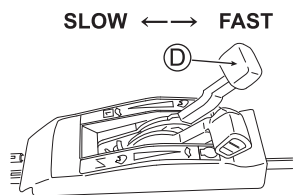

Fig. 23.
5 Adjust the mowing speed with Gearshift lever (D). (See Fig. 23.)